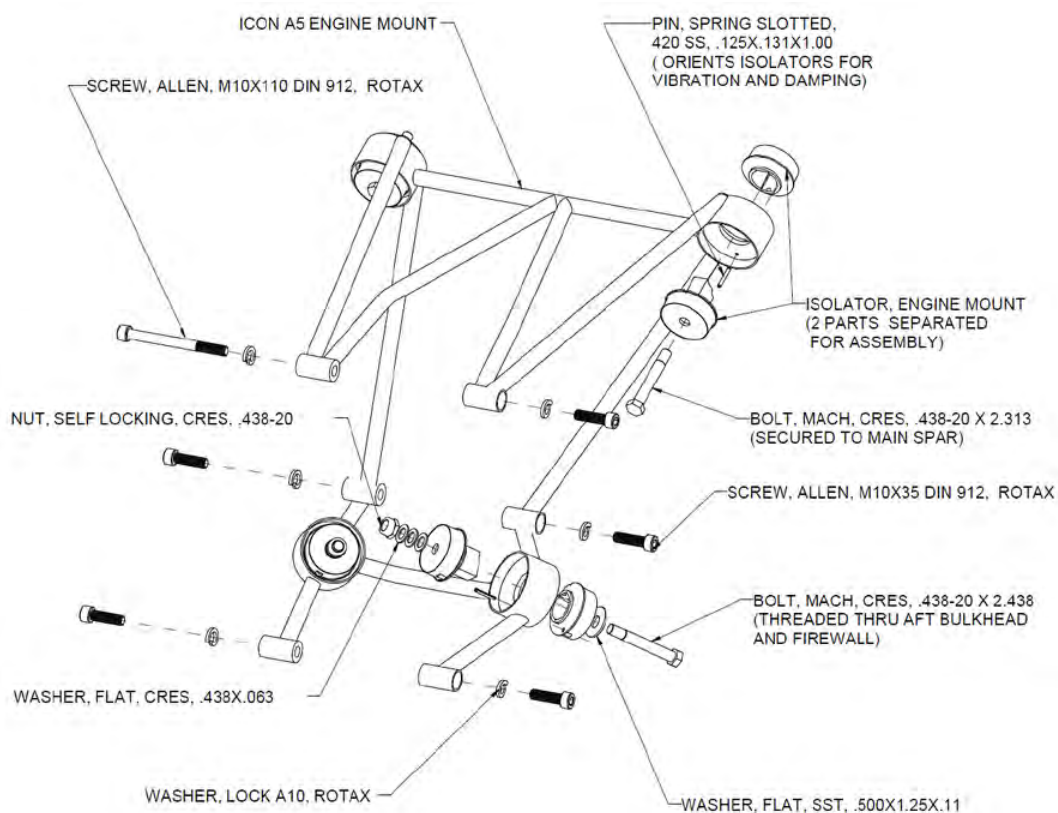

FIGURE 17-18
2. Visually inspect the engine mount and all its inclusive hardware for any failure, malfunction, excessive wear, or other anomalies. Figure 17-18 shows the engine mount with all its inclusive hardware.